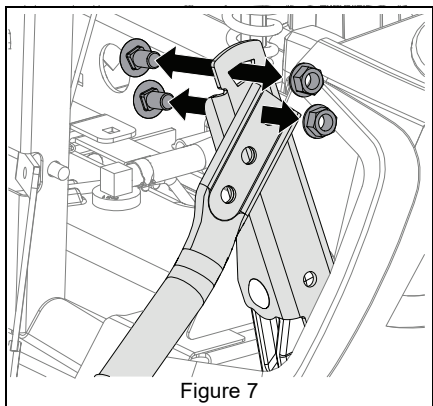

Figure 7
1. Remove hardware securing steering levers to lower control arms. See Figure 7.